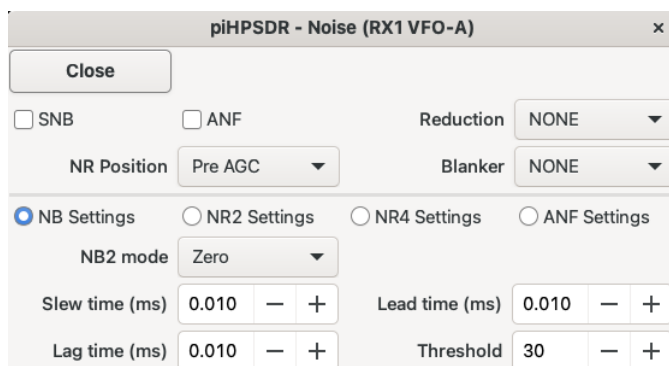
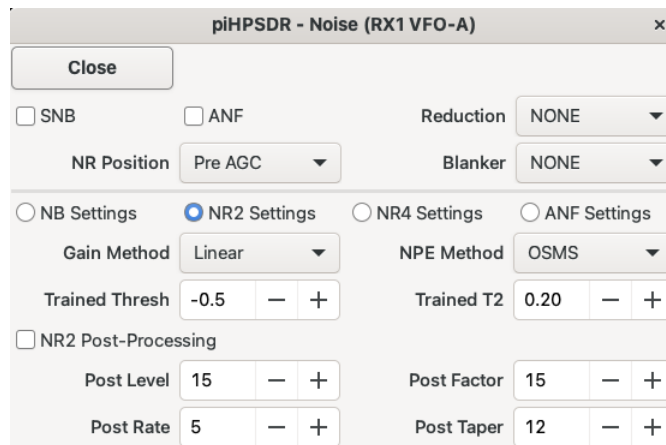
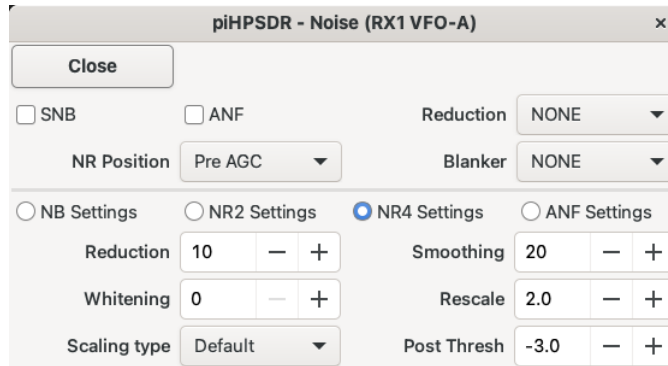
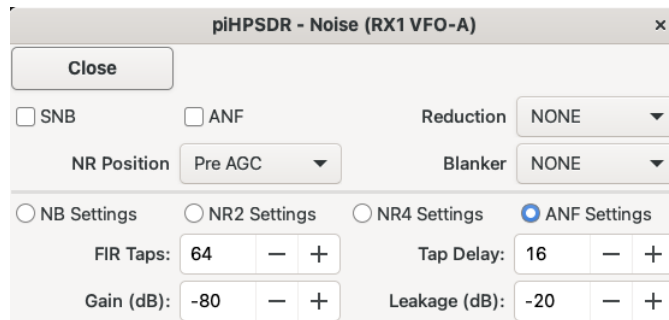

Fig. 9.7: The Noise menu (with NB settings).
Fig. 9.8: The Noise menu (with NR2 settings).
Fig. 9.9: The Noise menu (with NR4 settings).
Fig. 9.10: The Noise menu (with ANF settings).
With the **Noise** menu you can select a variety of noise reduction and/or noise blanker capabilities (Fig. 9.7). The upper part of the menu always looks the same, the lower part lets you fine-tune parameters for the noise blanker (NB) or the noise reduction models NR2 and NR4. For an in-depth explanation of the NR/NR2/NB capabilities, the reader is referred to the WDSP manual. The noise reduction models NR3 (**RMNnoise**) and NR4 (**libspectbleach**) more information can be found starting at their github repositories
You see a thin horizontal line in Fig. 9.7. Choosing one of the three buttons just below the horizontal line determines whether the lower part of the menu offers fine-tuning of NB, NR2, or NR4 settings. The set up for changing the noise blanker settings is shown in Fig. 9.7, below you find the set up for changing the NR2 settings (Fig 9.8), the NR4 settings (Fig. 9.9), and the ANF settings (Fig 9.10). Note there are no settings for NR3: the default “full” RNNnoise model is hard-wired into the code and used. Finally,
The noise menu with the NR2-specific control is shown in Fig. 9.8:
The noise reduction menu with the NR4-specific settings is shown in Fig. 9.9.
The noise reduction menu with the ANF-specific settings is shown in Fig. 9.10. Before playing around with these settings, consult the WDSP manual.